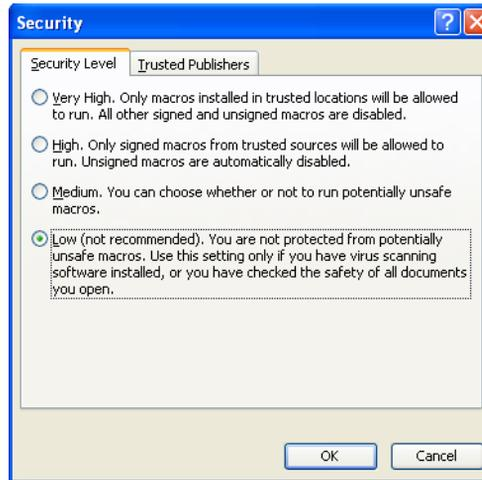

Figure 110. Enabling Macro Security
2. Select the Low security level in the Security dialog, Figure 110, then click **OK**.